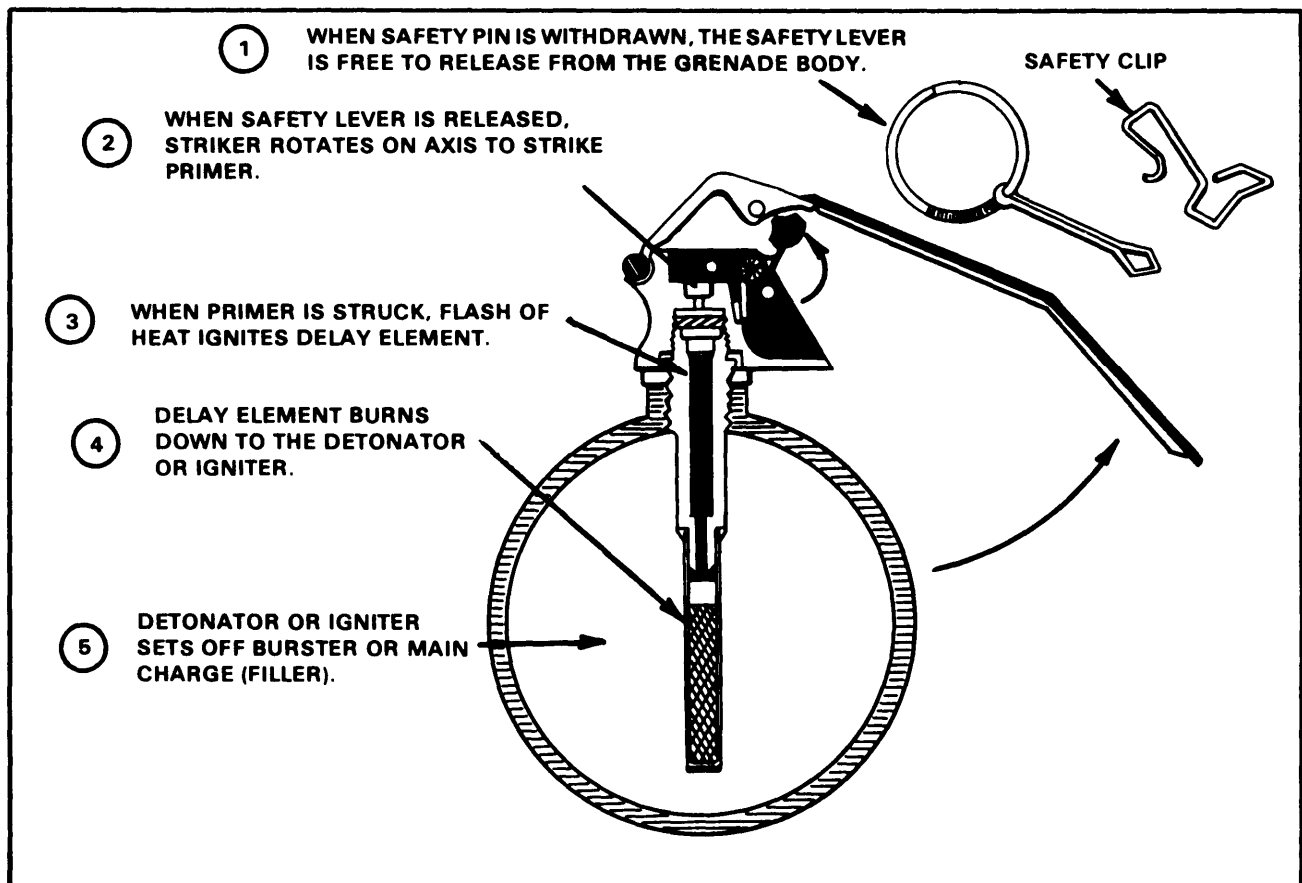

Figure 1-2. Fuze functioning.
f. The delay element burns for the prescribed amount of time (see Figure 1-2, and then it activates either the detonator or igniter.
g. The detonator or igniter acts to either explode or burn the filler substance (Figure 1-2).